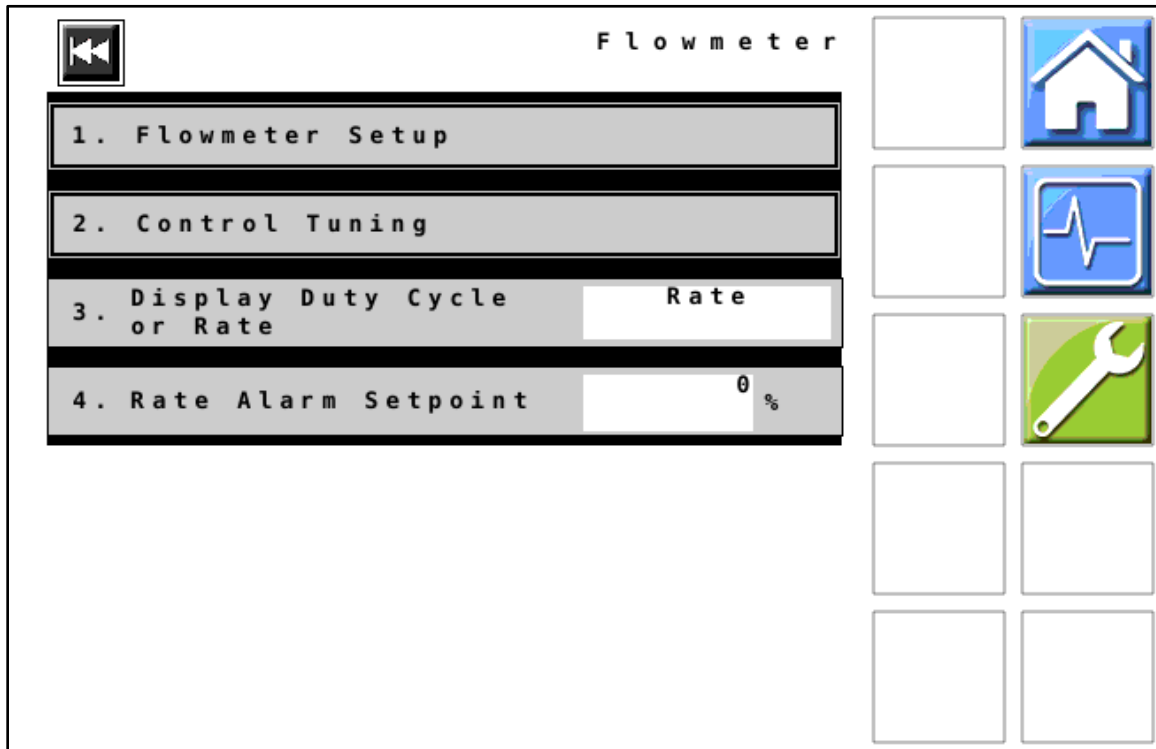

Figure 16 — Flowmeter
27. *Figure 16:* Verify that all values displayed on your unit match those shown here. Change values if necessary.